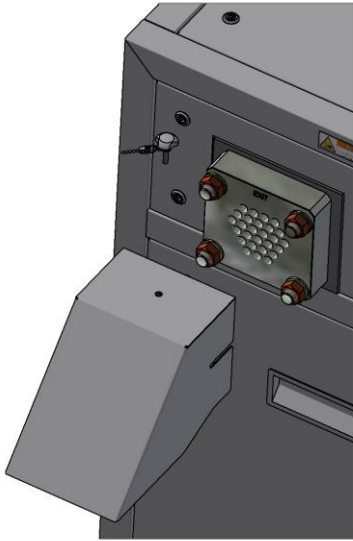

Fig. 19
- Mount the extruder plates and the pellet discharge units (fig. 19) to the pelletizer and tighten the M24 nuts. See torque specification chapter 6.3 "TIGHTENING TORQUES".